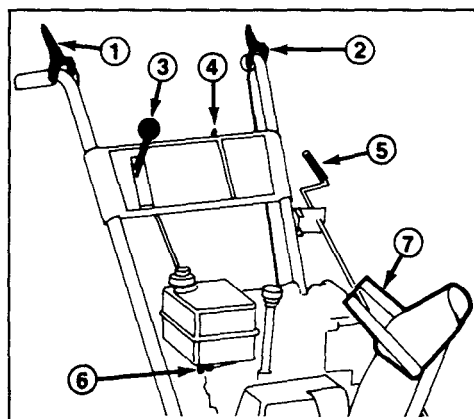
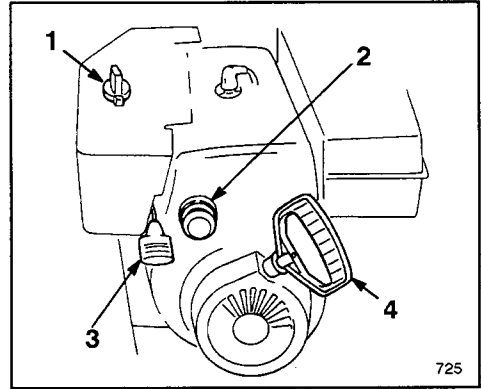
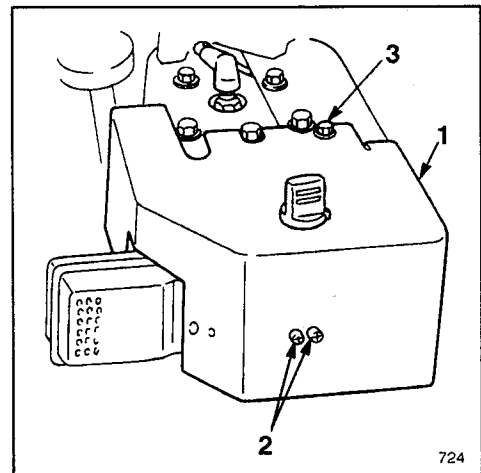

Figure 14
Figure 15
Figure 16
Auger Drive Control (Fig. 14)—Control has two positions: ENGAGE and DISENGAGE. To engage both auger and impeller, compress lever against right handgrip. To disengage, release lever.
Traction Control (Fig. 14)—To engage traction (wheel drive), lever must be compressed against left handgrip. To stop traction, release lever.
Speed Selector (Fig. 14)—The control has four positions: reverse, 1, 2 and 3. To change speeds, move gear shift to position desired. Lever will lock in notch at each speed selection. Use positions 1, 2 or 3 depending on snow conditions.
Ignition Switch (Fig. 14)—Switch has two positions: ON and OFF. Rotate key to ON position before starting engine with the recoil starter. To stop engine, rotate key to OFF.
Throttle (Fig. 15)—Moving the throttle upward increases engine speed.
Choke (Fig. 15)—Rotate choke to FULL choke position to start a cold engine. As engine warms up, move choke gradually to OFF.
Primer (Fig. 15)—Press primer to pump a small amount of gasoline into engine for improved cold weather starting.
Fuel Shut—Off Valve (Fig. 14)—Valve is located under fuel tank. Close valve by rotating it to the right to stop fuel flow from fuel tank. Open valve by rotating it to the left to allow fuel to flow to the carburetor. Close valve when snowthrower is not in use.
Discharge Chute Control (Fig. 14)—Rotate discharge chute control clockwise to move discharge chute
Recoil Starter (Fig. 15)—Recoil starter is on back side of engine. Pull recoil starter to start engine.
Chute Deflector Handle (Fig. 14)—Deflector handle is on top of discharge chute, and it is used to control height of the snow stream.
Note: If engine is operated when temperature is +40° F (4° C) or higher, remove carburetor heater box (Fig. 16). However, the heater box must be reinstalled when temperature falls below +40° F (4° C). To remove heater box:
A. Remove (2) phillips screws and (1) hex head screw securing heater box in place (Fig. 16). Pull choke knob off choke rod (Fig. 15).
1. Move throttle (Fig. 15) to FAST.
2. Open fuel shut-off valve below fuel tank (Fig. 14) by rotating valve to the left.
3. Rotate choke (Fig. 15) to full choke position.
4. Rotate ignition key (Fig. 14) to ON.
6. Grasp recoil starter handle (Fig. 15) and pull it out slowly until positive engagement results; then pull vigorously to start the engine. Keep firm grip on starter handle and return the rope slowly.
7. After engine starts, immediately rotate choke (Fig. 15) to 3/4 position. As engine warms up, rotate choke to 1/2 position; then to OFF position. If engine falters, return choke to 1/2 position. When engine warms sufficiently, rotate choke to OFF position.
1. Release traction and auger drive controls (Fig. 14).
2. Move throttle (Fig. 15) to slow and rotate ignition key (Fig. 14) to OFF.